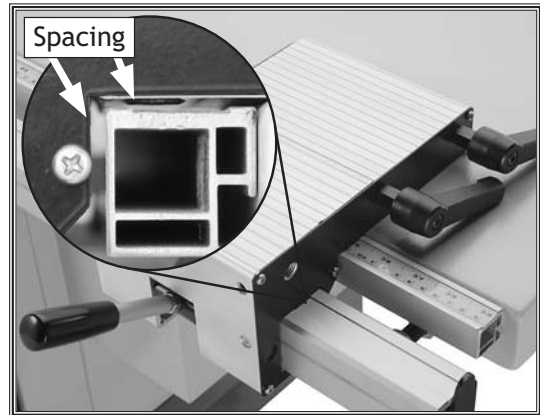

Figure 19. Fence base installed; spacing between fence base and scale bar.
- Slide the rip fence base on the rail, and check the spacing between the rip fence base and scale bar (see **Figure 19**). There should be a minimum of $\frac{1}{8}$ " of space between the scale bar and the fence base. Adjust the mounting position of the rip fence rail to create this space evenly along the length of the scale bar, then tighten the rail mounting nuts.